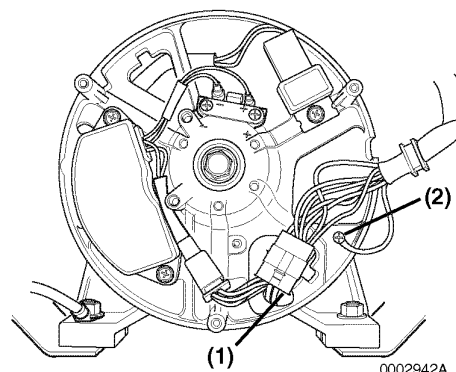

Figure 7-45
Note: YDG2700EV-6EH models use one six terminal connector (**Figure 7-45, (1)**) from the control panel and one ground wire (**Figure 7-45, (2)**) fastened to the rear housing.